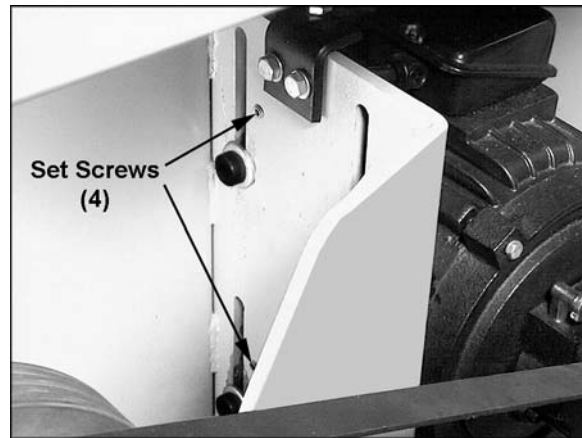

Figure 25
If the drive belt is not aligned properly, it can be aligned with one or more of the four set screws located behind the steel plate. Figure 25 shows two of the set screws.
2. Rotate clockwise one of the set screws (Figure 25) with a 4mm hex wrench, to push out the motor plate at that point. This will shift slightly the angle of the motor. Use whichever set screw is most effective in adjusting the angle of the motor until the drive belt is aligned.